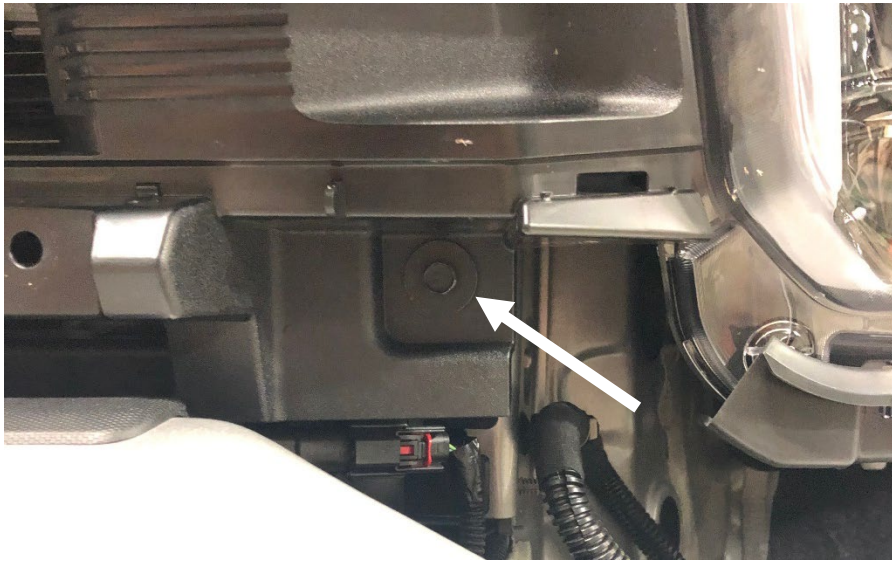

Figure 4
4. Use a 10mm socket wrench to remove the two (2) bolts at the base of the grill. (Figure 4)